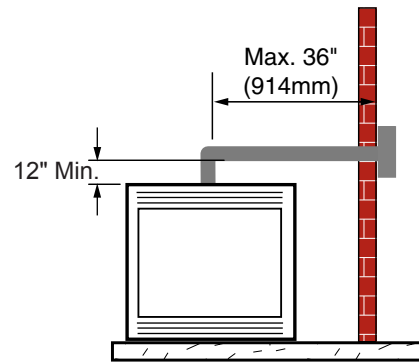

Figure 15 -
- A minimum of 12" is required before a 90° elbow. If a 90° elbow is fitted directly after 12" vertical section mounted to the top of the fireplace, the maximum horizontal vent run before the termination or a vertical rise is 36" (914 mm). *Figure 15*